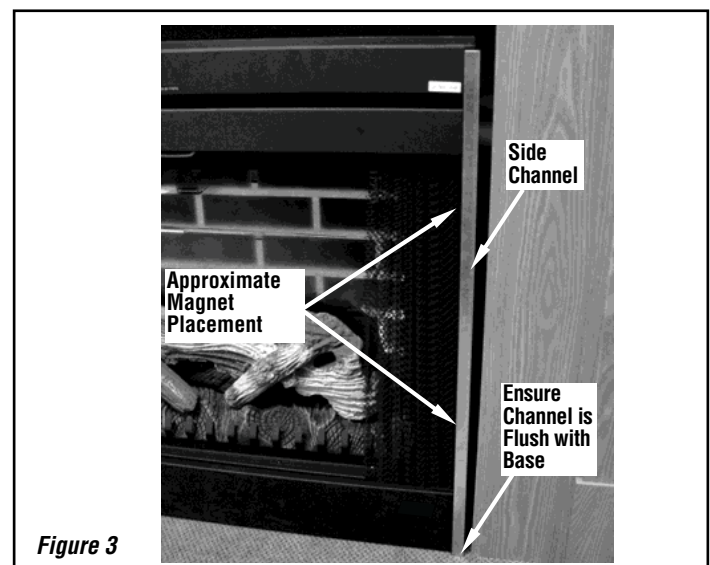

Figure 3
Step 3. Place the side channels over the magnets (see **Figure 3**). Ensure that the two side channels are flush with the bottom of the fireplace. The wider side of the side channel should be on the front of the fireplace face after installation.